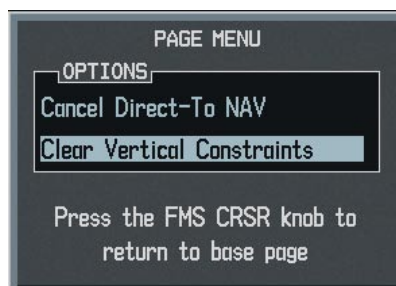

Figure 5-27 Clear Vertical Constraints Option
- 3) With 'Clear Vertical Constarints' highlighted (Figure 5-27), press the **ENT** Key.